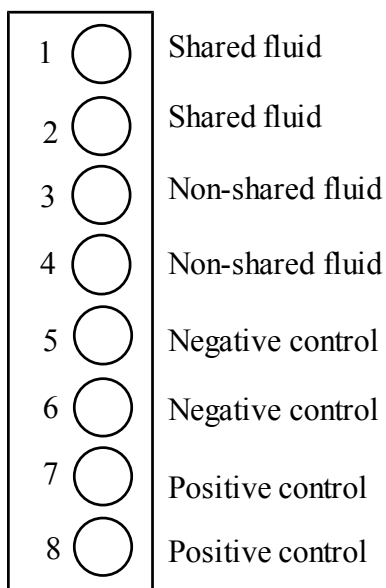

Figure 4. Diagram of samples in microtiter wells.
8. Now load the plate with your body fluid and the control. Load your solutions as shown in Figure 4 on the next page. Test each of the solutions twice. To load the wells, pipet 100 uL of each sample into each well, using the micropipets and tips provided. Use a new tip for each sample.